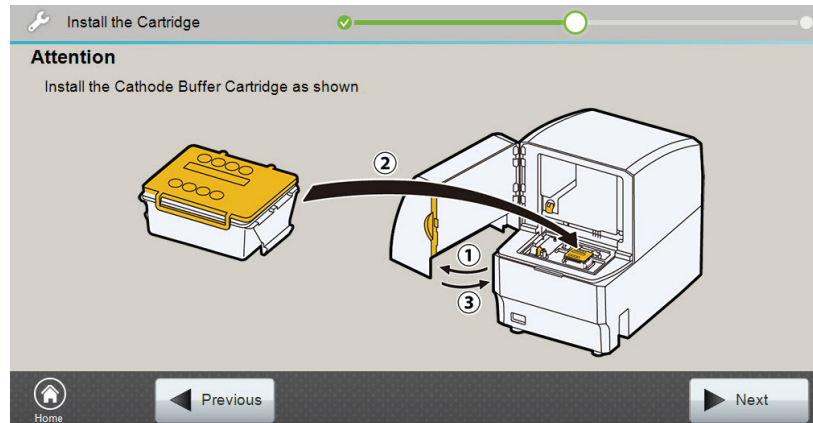

Figure 24. 'Install the Cathode Buffer Cartridge' screen.
8. When the 'Install the Cartridge' screen appears (Figure 24), open the front door of the instrument.